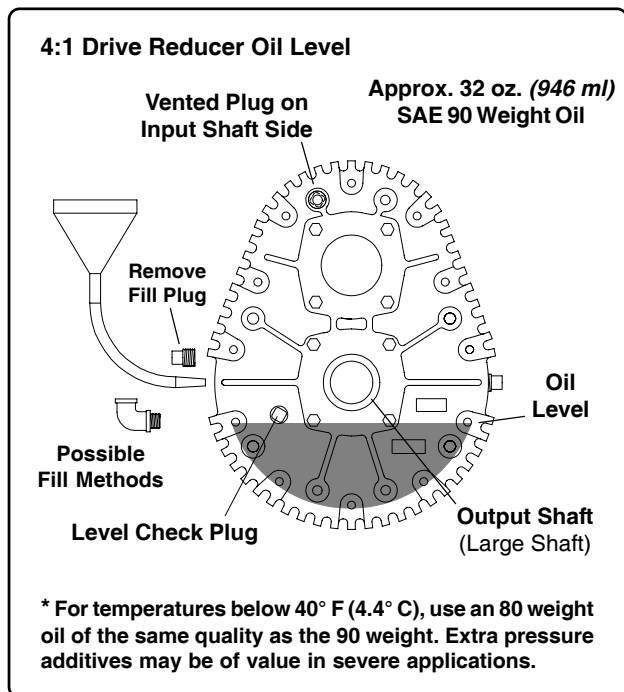

FIG. 3
1. With gearbox in the upright position, remove one of the plugs from the side of the gearbox housing (See Fig. 3).